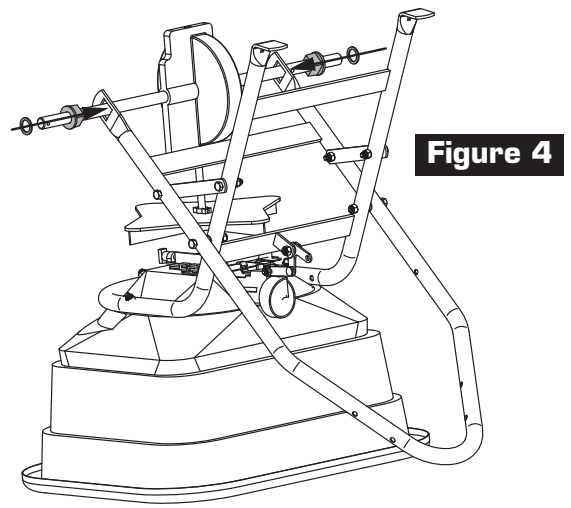

Figure 4
4. Install both Axle Bearings into the square holes as shown in Figure 4.